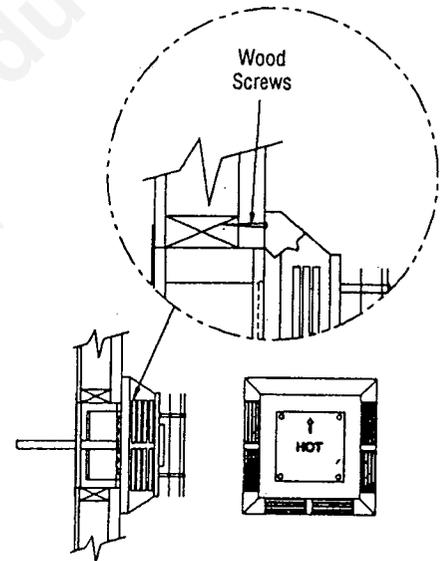

Figure 20
D. Position the horizontal vent termination into the wall thimble, and attach to the exterior wall with the four wood screws provided. Before attaching the Vent Termination Dura Vent Part No. 984, to the exterior wall, run a bead of non-hardening mastic around its outside edges, so as to make a seal between it and the wall. The arrow on the vent cap should be pointing up. Insure that proper clearances to combustible materials are maintained (Figure 20).